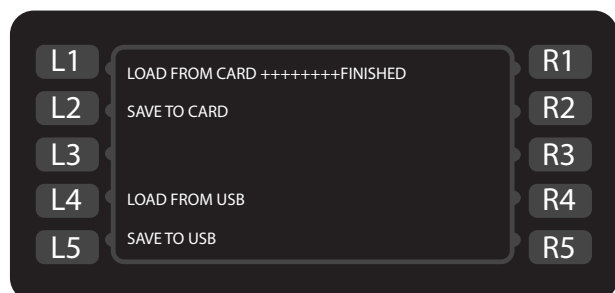

Figure 20: Loading...Finished
3. Verify the oven beeps and reads “FINISHED” (Figure 20).